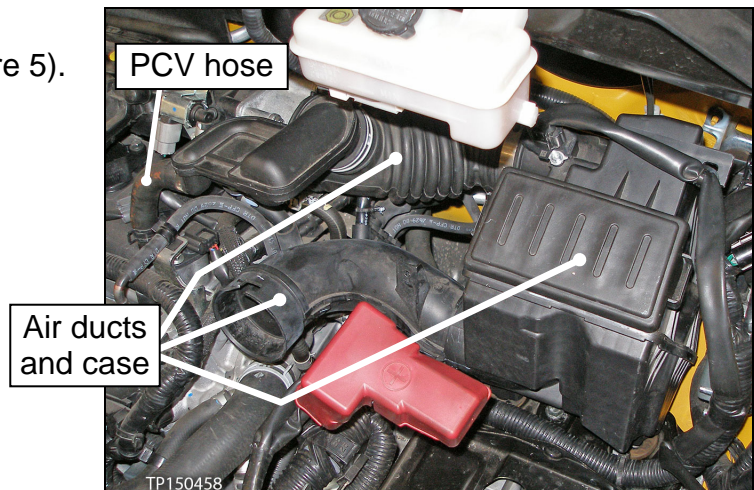

Figure 5
5. Disconnect the PCV hose (see Figure 5).
6. Remove the air filter cleaner case and both air ducts as one piece (see Figure 5).